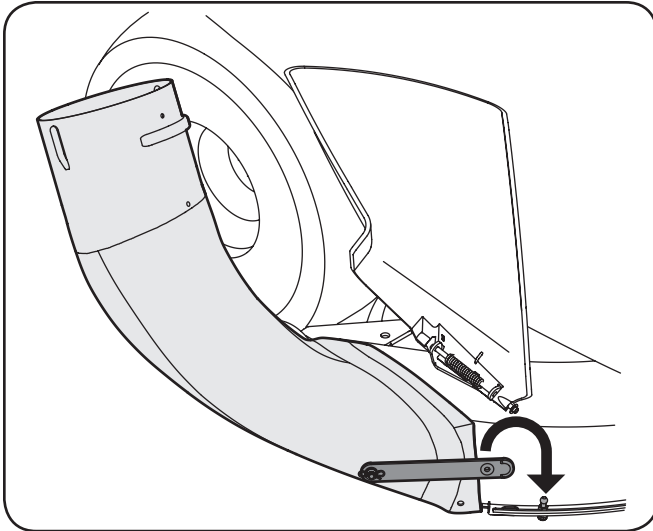

Figure 4-21
12. Secure the chute elbow to the tractor's deck by hooking the chute strap onto the ball pin installed earlier on the deck. See Fig. 4-21.